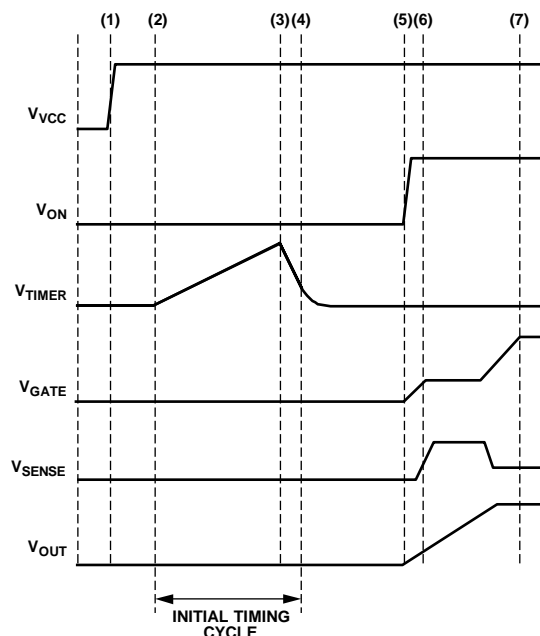

Figure 31. Startup (ON Asserts After Power Is Applied)
At Time Point (5), the threshold voltage of the FET is reached, and the load current begins to flow. The FET is controlled to keep the sense voltage at 100 mV (this corresponds to a maximum load current level defined by the value of  $R_{\text{SENSE}}$ ). At Time Point (6),  $V_{\text{GATE}}$  and  $V_{\text{OUT}}$  have reached their full potential, and the load current has settled to its nominal level. Figure 31 illustrates the situation where the ON pin is asserted after  $V_{CC}$  is applied.